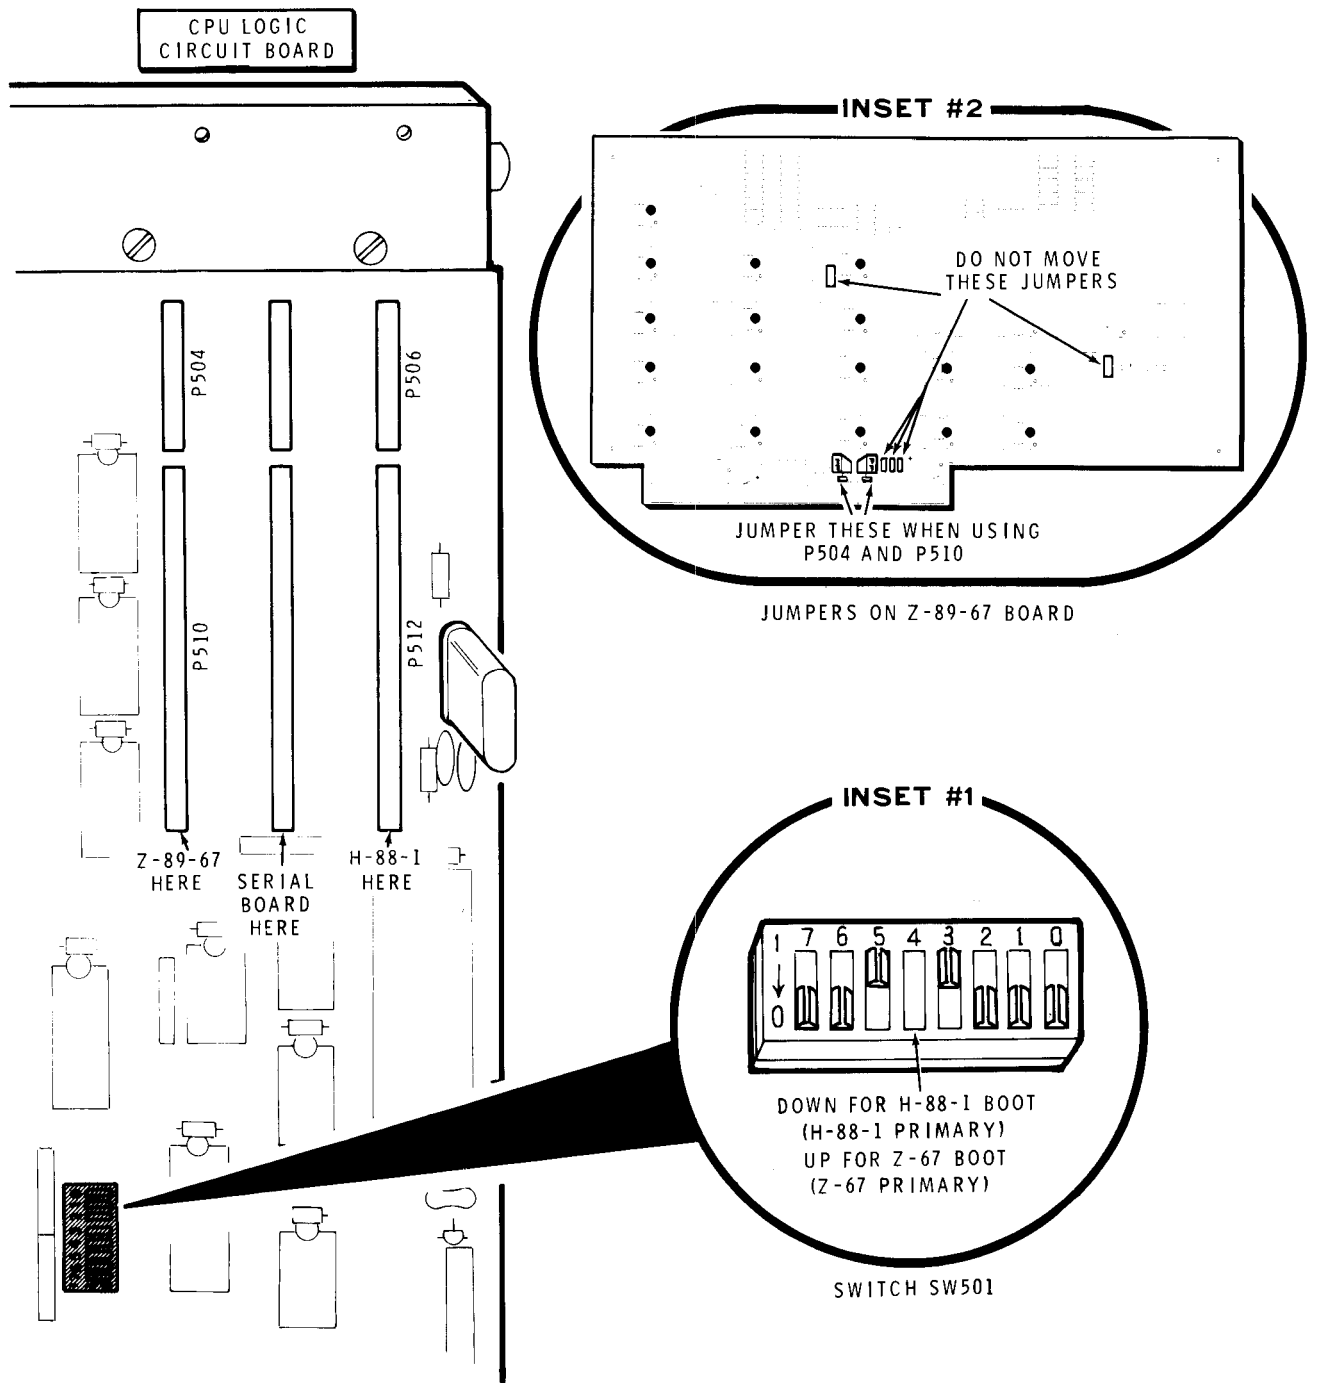

Figure 6-6
2. An **H-88-1 Disk Controller**, you must install your Z-89-67 Interface Board as shown in Figure 6-6 on Page 6-9. Set switch SW501 as shown in inset drawing #1, and the jumpers as shown in inset drawing #2.